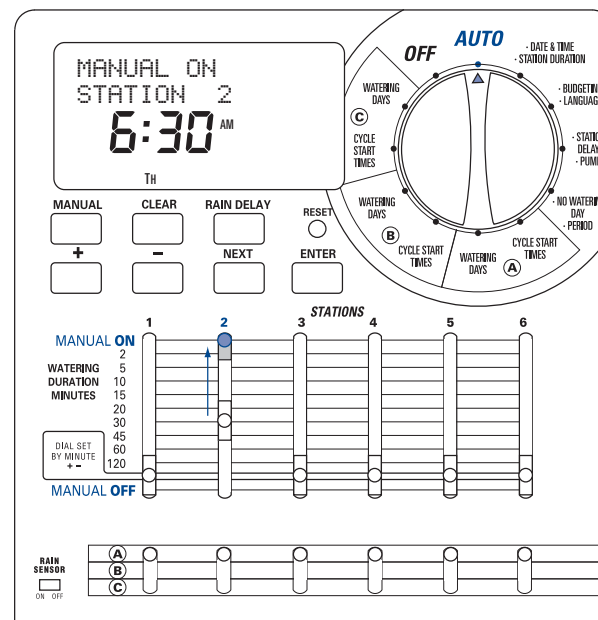

Figure 15: Manual Watering One Station
2. To activate the station, move the station **Watering Duration Slide Switch** to the **MANUAL ON** position (fully up). The display will indicate "MANUAL ON" and the station number being activated. [See Figure 15]